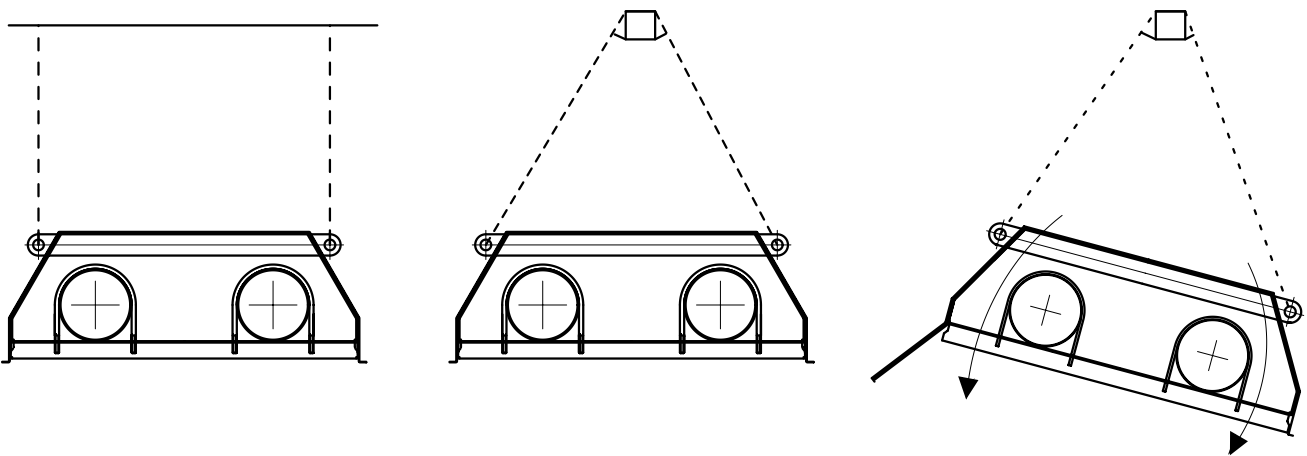

Fig. 6: Suspension of infrared heater Helios
2. According to the Fig. 6 it is necessary to fix the infrared heater at least on two places by using an appropriate way so that the device cannot be turned around.